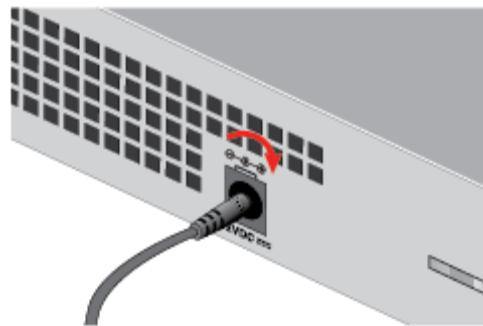

Figure 30. Locking the Power Cord for the DC Power Supply Socket
2. If your switch is the AT-GS910/5E or AT-GS910/8E switch with a DC power supply socket, turn the power cord clockwise one-quarter to lock, as shown in Figure 30.